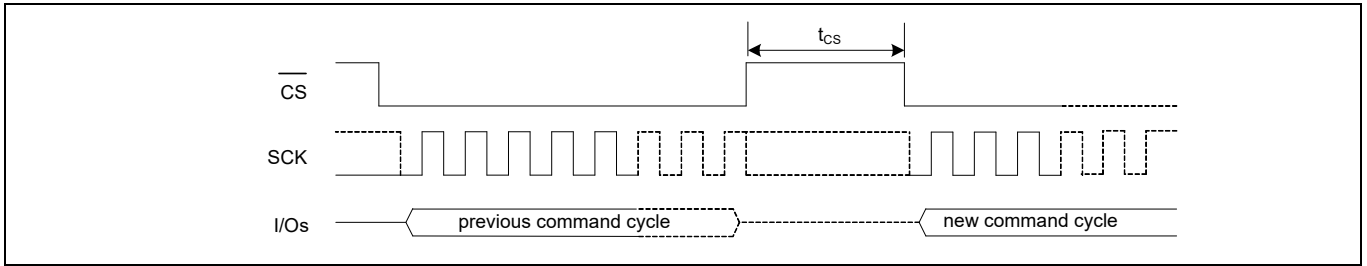

Figure 116 Chip deselect ($\overline{\text{CS}}$ HIGH) - t_{CS} timing
20. t_{CS} is the minimum chip deselect (\overline{CS} HIGH) time before the new command cycle starts in a specific SPI mode (SPI, DPI, or QPI). This parameter ensures that previous operation is successfully completed before the host starts a new command cycle. Refer to **Figure 116**.
20. t_{CS} is the minimum chip deselect (\overline{CS} HIGH) time before the new command cycle starts in a specific SPI mode (SPI, DPI, or QPI). This parameter ensures that previous operation is successfully completed before the host starts a new command cycle. Refer to Figure 116.
25. t_{CS} is the minimum chip deselect (CS HIGH) time before the new command cycle starts in a specific SPI mode (SPI or QPI). This parameter ensures that previous operation is successfully completed before the host starts a new command cycle. Refer to **Figure 116**.
- 25. t_{CS} is the minimum chip deselect (CS HIGH) time before the new command cycle starts in a specific SPI mode (SPI or QPI). This parameter ensures that previous operation is successfully completed before the host starts a new command cycle. Refer to **Figure 116**.